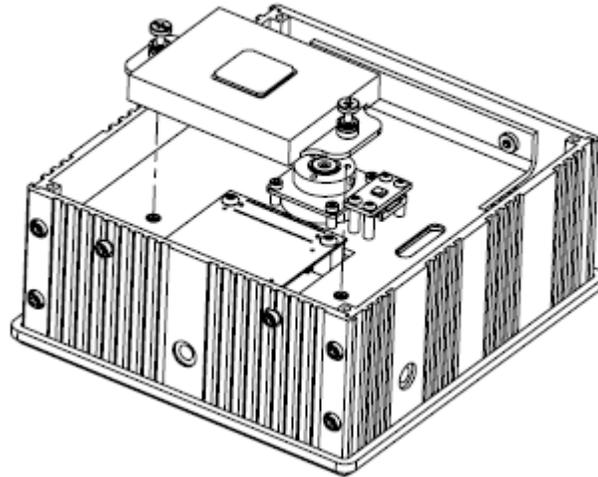

Figure B.3 Remove Bezel Assembly
STEP 3. Disengage the two screws securing the bezel to the motor plate as shown in Figure B.3.